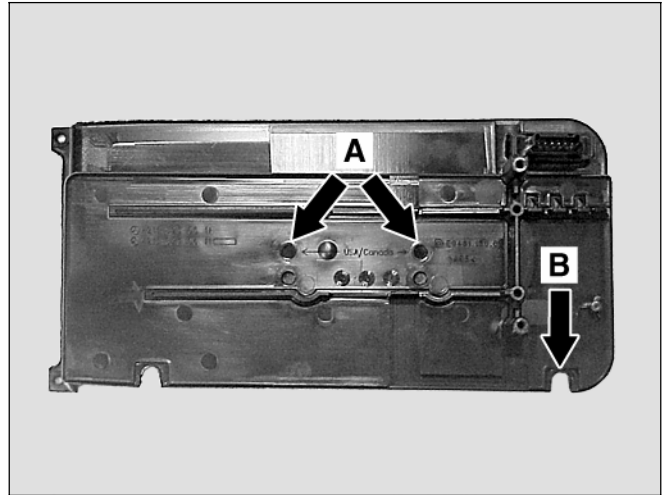

Figure 10
9. Drill out the two semi-punched holes in the false floor underside with a 4.5-mm drill bit (A, Figure 10).
10. Drill, or file, out the upper semi-punched notch of the false floor—for the coil-cord (B, Figure 10).